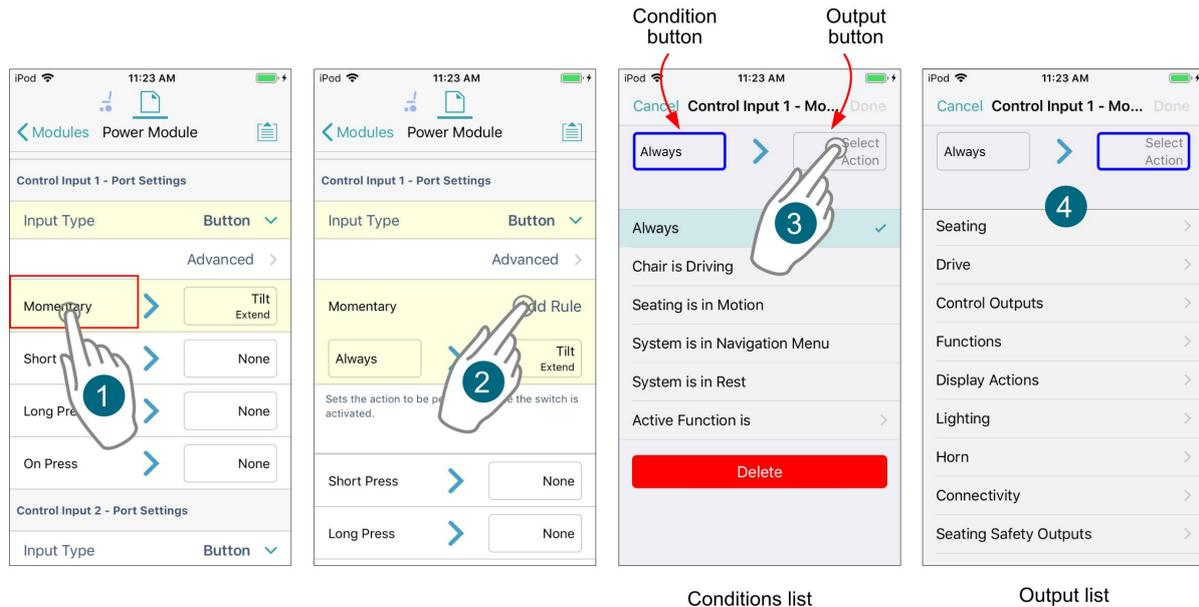

Figure 92: Assigning an output where rules already exist for slot
4. Tap on the left-hand side of the control IO slot (Figure 92 ①) to expand the slot and reveal the **Add Rule** button.
5. Tap on **Add Rule** (Figure 92 ②), which opens the conditions list.
6. Tap on the output button (Figure 92 ③) to display the output list (Figure 92 ④).